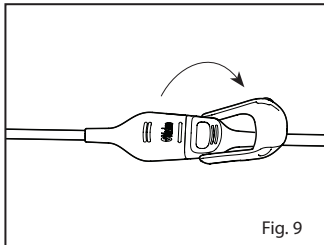

Fig. 9
1. Refer to **Fig. 9**. Lift up the protective latch.